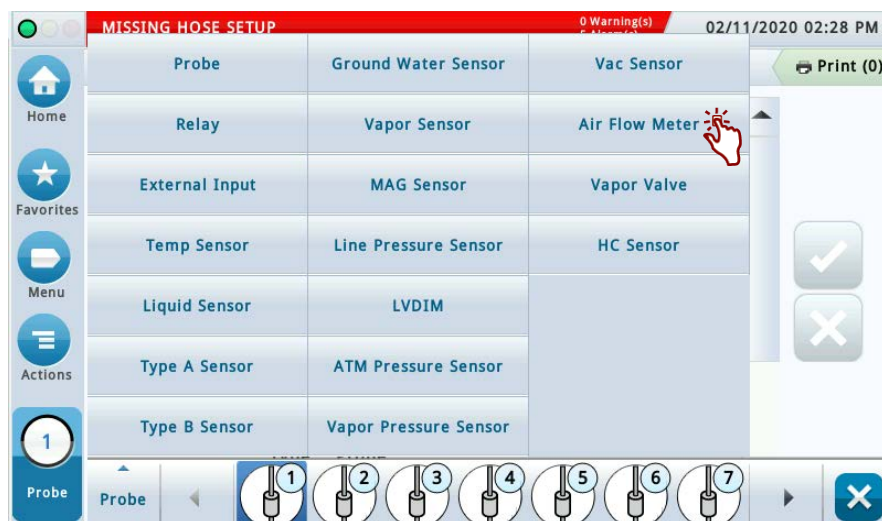

Figure 4. Accessing Air Flow Meter Setup Screen
2. Touch the Air Flow Meter button in the Devices list (Figure 4) to display the Air Flow Meter setup screen (Figure 5).